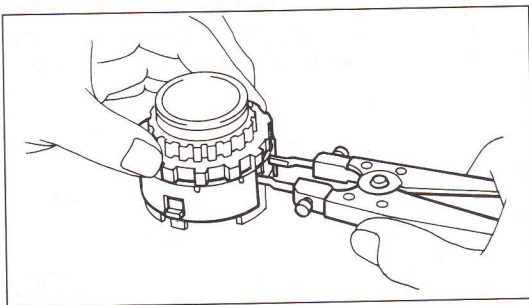

Fig. 4-14. Snap-ring pliers being used to expand joint spring slightly. Over-expansion may damage spring.
- Using snap-ring pliers as shown in Fig. 4-14, slightly expand the joint spring and release it from the tabs of the cam follower. Then remove the clutch and the joint spring as a unit from the inner hub subassembly. Remove the preset spring and the preset spring retainer.
9. While slightly expanding the joint spring with snap-ring pliers, install in the joint spring the clutch, the preset spring, and the preset spring retainer. Install the assembled parts on the inner hub, while slightly expanding the joint spring in order to engage it with the tabs of the cam follower. See Fig. 4-14, given previously.